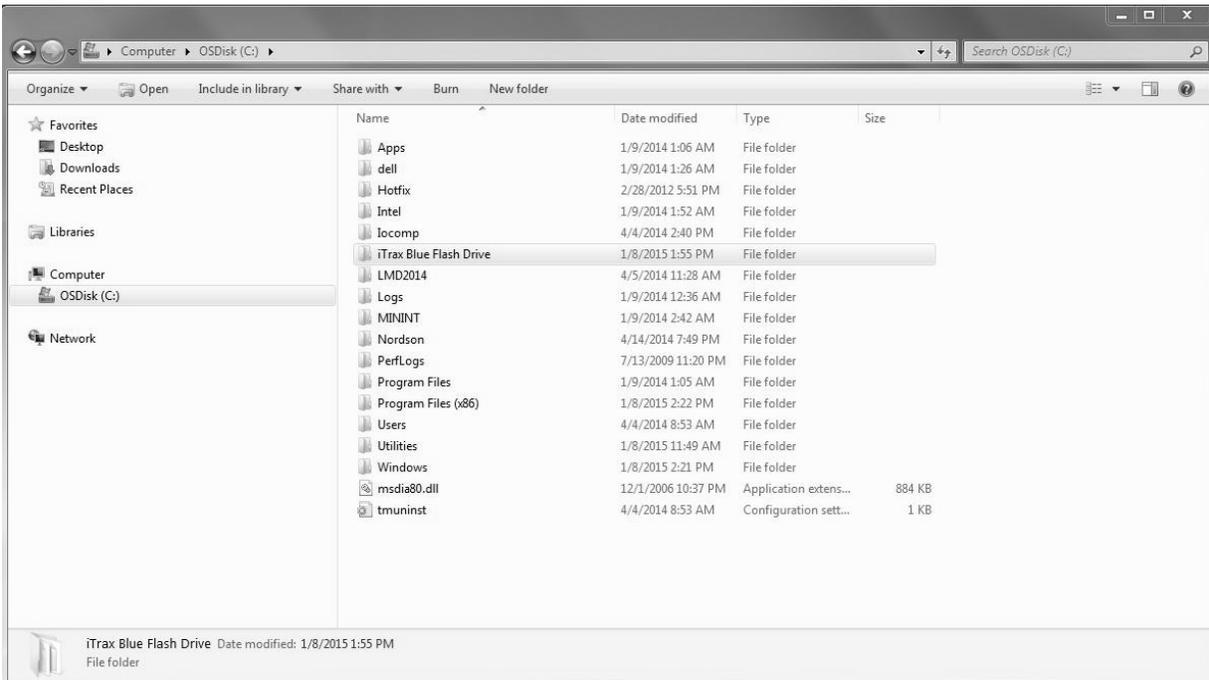

Figure 9 Creating the iTrax Blue Flash Drive Folder
2. See Figure 9. Name the folder iTrax Blue Flash Drive.